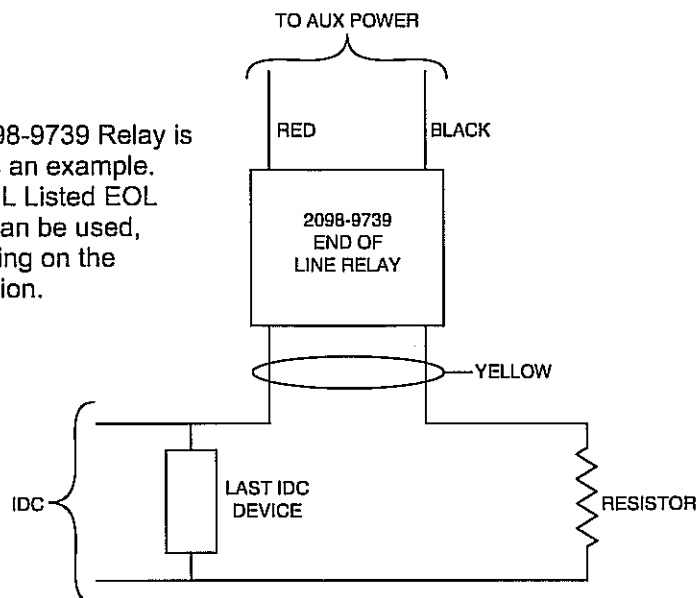

Figure 11. The EOL Relay
- *Auxiliary power only:* In order to connect a circuit using power-limited wiring, the devices being powered must all be addressable, or a UL Listed EOL relay must be used to supervise the circuit. Refer to Figure 11 for wiring directions for the EOL relay.